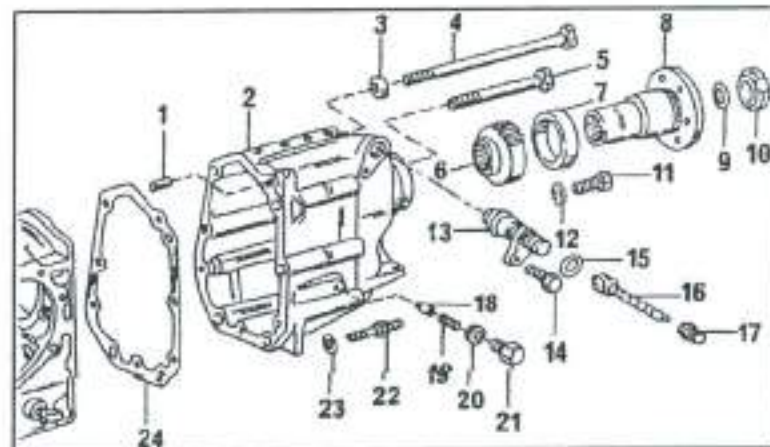
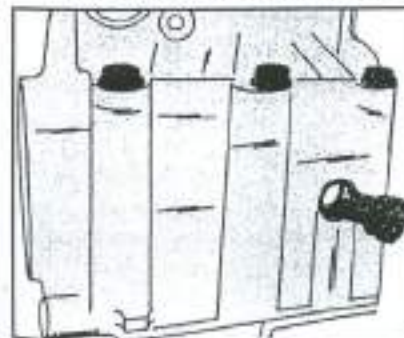

Fig. 3.8 - The component parts of the rear gearbox cover.
Fig. 3.9 - The gearchange detent is located underneath the plug.
- Remove the screws securing the gearbox cover. On one side of the gearbox remove a plug and remove the selector detent and a spring (see Fig. 3.9).
- Remove the old oil seal out of the cover (screwdriver) and remove the speedometer drive shaft. The dismantled cover is shown in Fig. 3.8.
- Coat the cover screws with "Loctite" and tighten the screws with the torque values given in Fig. 3.8.
- Fit the plug shown in Fig. 3.9 with items 18 to 20 in Fig. 3.8 into the transmission cover and tighten the plug to 3.0 - 3.5 kgm (22 - 25 ft.lb.).